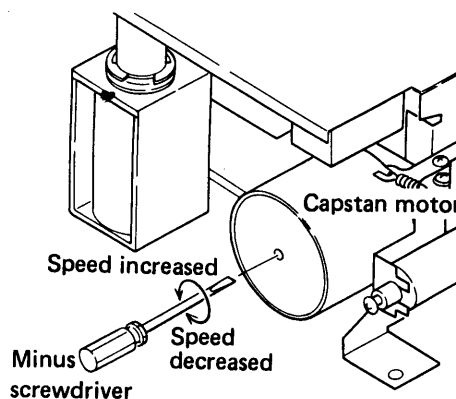

Fig. 8-2 Tape Speed Adjustment
2. Playback the 3kHz portion of the STD-301 test tape. At the beginning, the frequency should lie within the 2995 to 3010Hz range, and may be adjusted by turning the semi-fixed resistor located in the capstan motor adjustment hole (using a suitable size screw-driver). (See Fig.8-2).